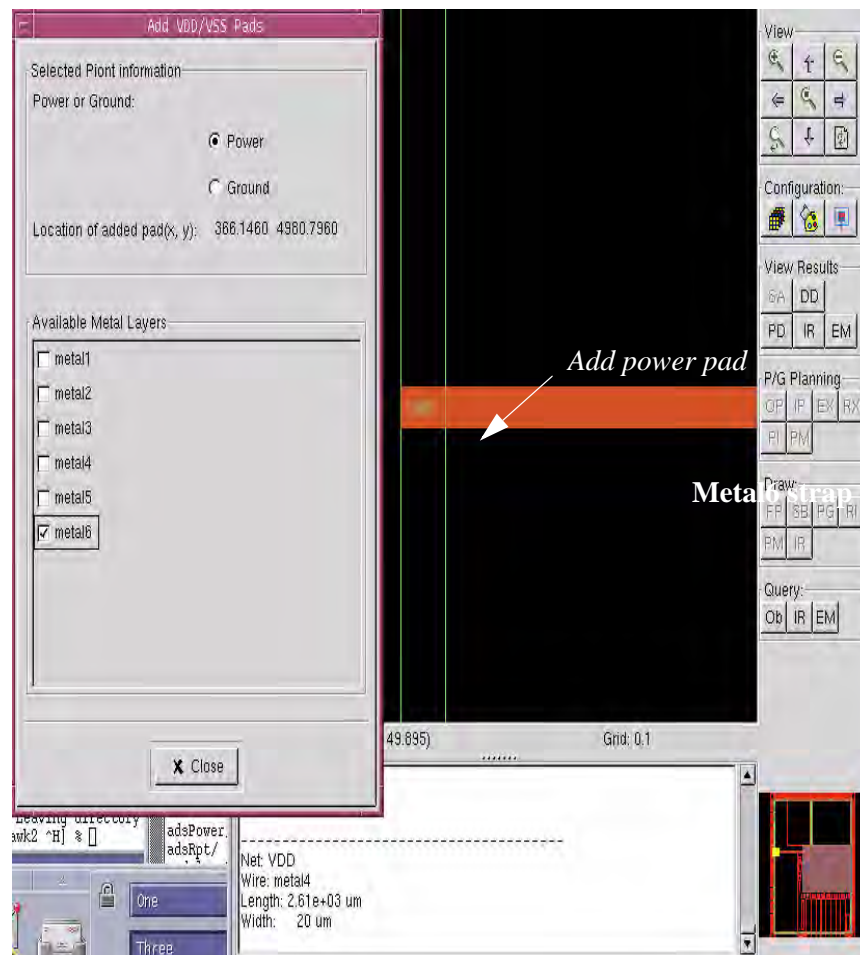

Figure 4-17 Adding a power pad on the metal6 strap
2. Then add one power pad on the metal6 strap using the command **Edit > Add Pad**, as shown in Figure 4-17.